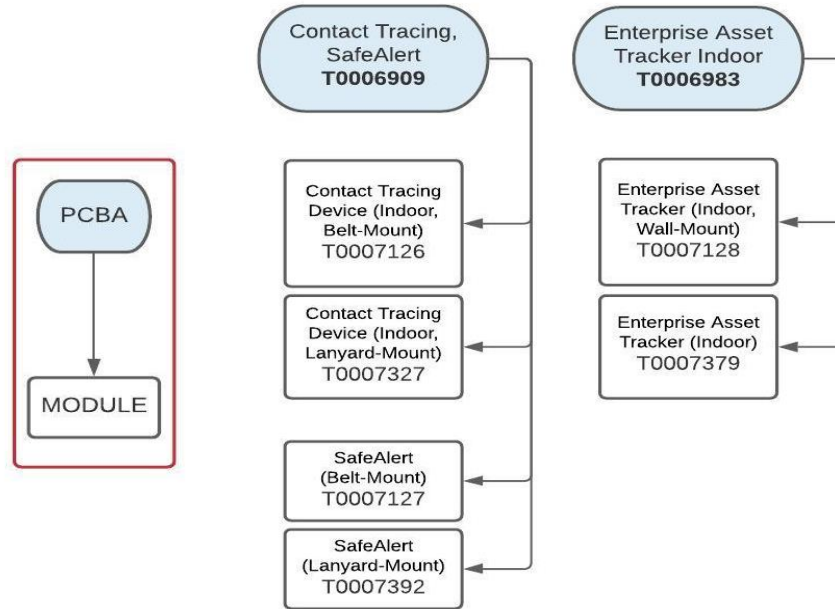
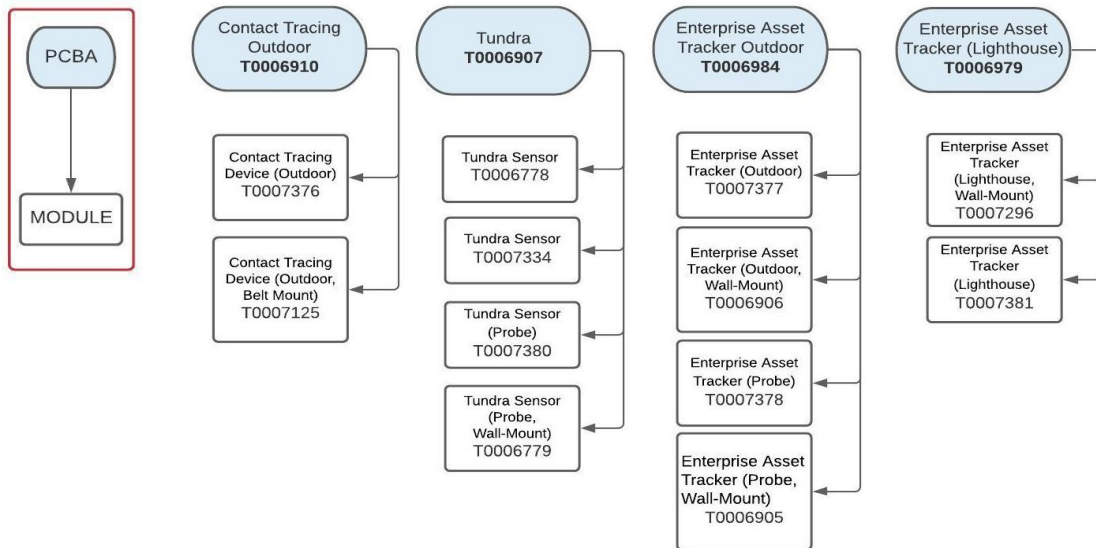

Figure 1-2: AA-Cell Gen2 Sensor Variant Groupings by PCBA
Figure 1-3: C-Cell Gen2 Sensor Variant Groupings by PCBA
3. By PCBA (see Figure 1-2, Figure 1-3, and Table 1-1).
Figure 1-2 shows the HW/Mechanical groupings of the AA-cell variants and Figure 1-3 shows the groupings of the C-Cell Devices. In the figures, each grouping shares common PCBA HW (and